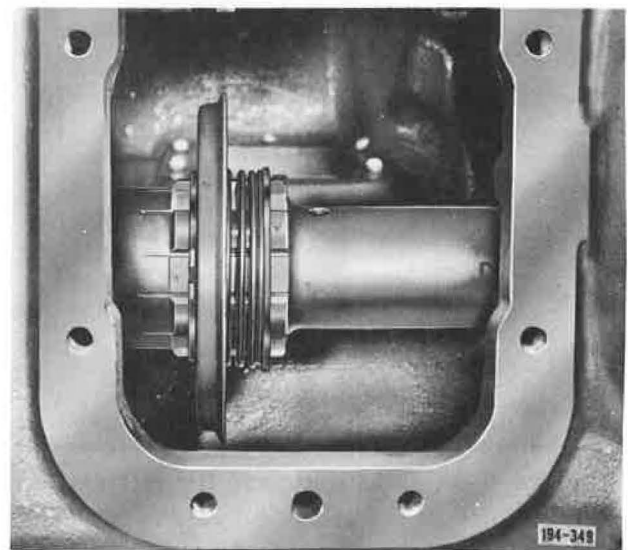

Figure 5-2 . Countershaft Oil Slinger
6. Remove oil slinger, see Figure 5-2 . Using special snap ring pliers J23186, remove